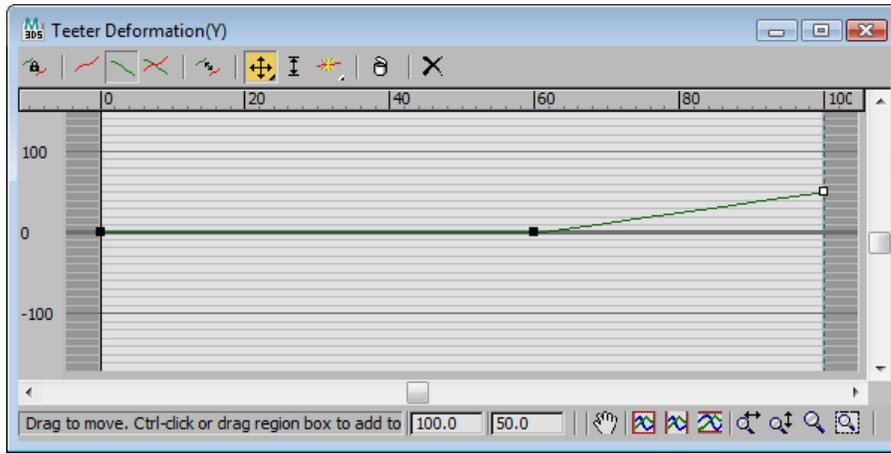

Figure 9-7A A vertex is added and the right side vertex is moved.
4. Pick the **Move Control Point** button in the dialog box and move the right-hand vertex up by five lines so that 50 is displayed in the right-hand text box in the dialog box, as shown in **Figure 9-7A**.